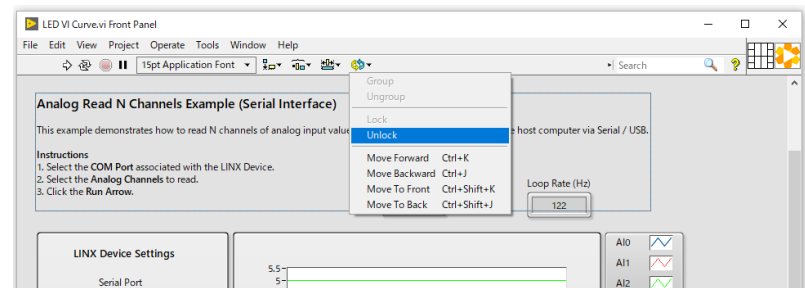
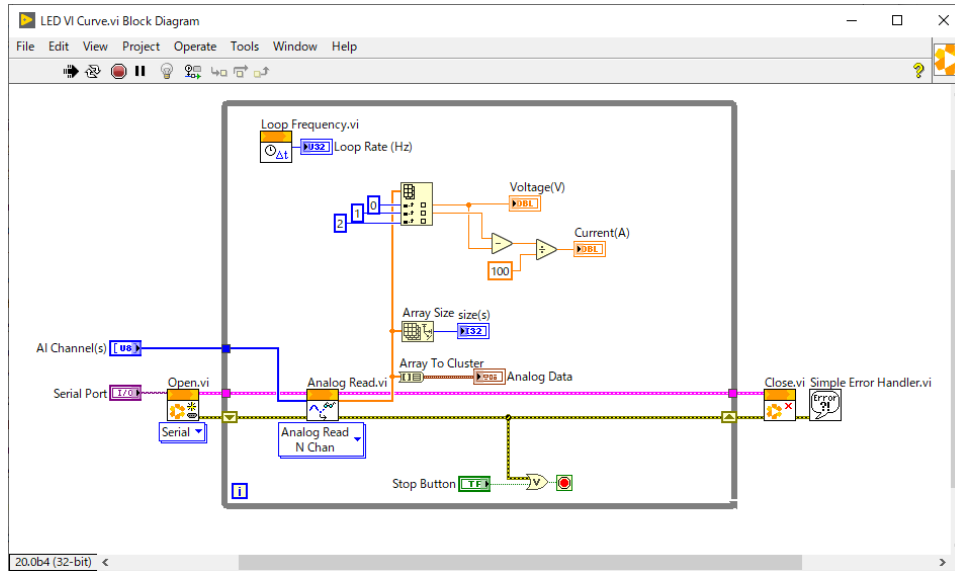

Figure 6-8 Unlock the description text
Figure 6-9 Block diagram to display voltage and current
Save **LINX – Analog Read N Channels.vi** as **LED VI Curve.vi**. We want to delete the text on the front panel but cannot since it is locked. Move the mouse cursor to the top left of the explanation text and drag the mouse over the rectangle to select the textbox. Click on the “Reorder” icon on the toolbar and select “Unlock” to delete the textbox (**Figure 6-8**). Using “Index Array” function in the Array function palette, extract item 0, 1, and 2 from **Analog Ready.vi**. Item 0 is the voltage applied to the LED. Value of Item 0 subtracted from Item 1 is the voltage applied to 100Ω resistor, and divide this voltage by 100Ω to get the current flowing in this circuit (**Figure 6-9**). We are able to calculate the voltage and current applied to LED